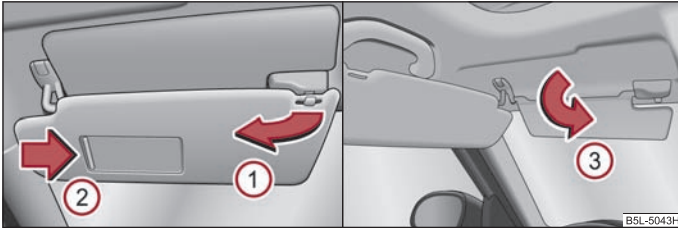

Fig. 49 Sun visor: Swivelling out/double sun visor
You can pull the sun visor for the driver or front passenger out of the fixture and swivel it toward the door in the direction of the arrow ① ⇒ fig. 49.